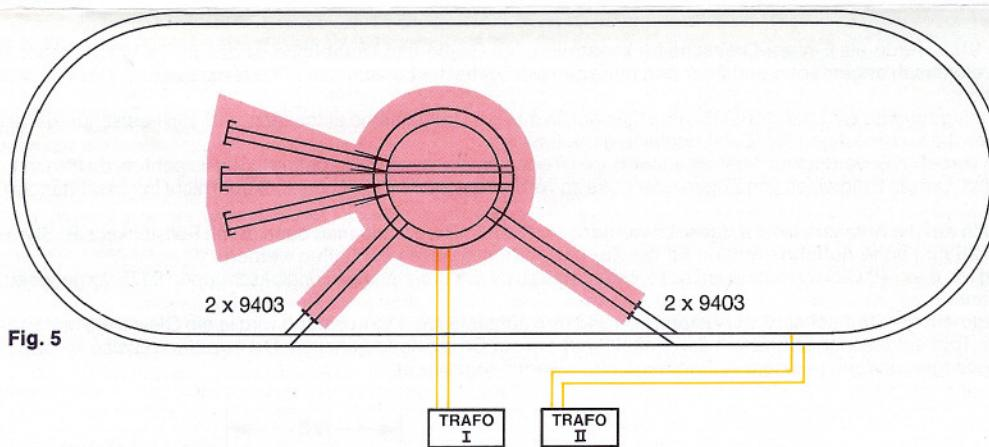
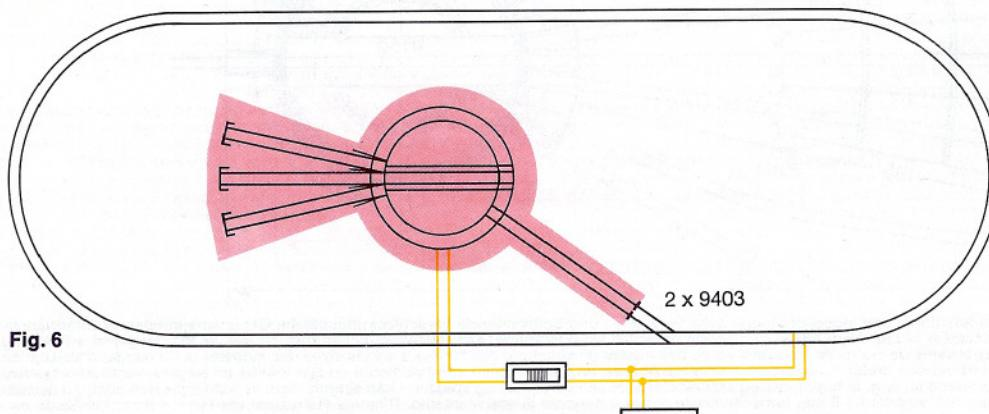

Fig. 5
Fig. 6
controlled by a separate transformer. All lines which go over into the turntable area should be cut off with two isolating fish plates 9403 (Fig. 5). **Operation of the layout with one transformer:** It is possible to operate the whole layout with just one transformer. As before all lines to the turntable area are cut off with two isolating fish plates 9403. Current is fed into the line. The turntable is also fitted with a switch 6904 · 6924 or a pause switch 6905 (Fig. 6). **Extensions:** With the Extensions Set 9153 the turntable can be extended to cope with three rail connections (Fig. 7). The turntable should be placed away from the area of the installed parts. The cover plates are now pulled up by pushing back the spring switch-tongues (Fig. 8), and stuck in the approach track. Every approach track is to be set up opposite a blind section or another approach track. **Rotating the turntable by hand:** Opposite the motor housing, under the turning table, is a small black lever. By pressing the lever towards the centre, the drive gear wheel is withdrawn from the teeth in the outer drive ring releasing the table so that it can be moved manually in the desired direction. When the lever is released the gear wheel is again enmeshed with the outer-ring. Ensure, however, that the rotating tracks are lined up with the exit tracks (Fig. 9). Should the turntable not operate, when pressing the switch 6909, simply press the lever slightly to ensure the gear wheel is firmly seated in the drive ring, which will then start it moving. It will then stop at the next track again (Fig. 10). **Oiling the motor:** To oil the drive motor both lattice cover plates must be removed from the machine house with a screwdriver (Fig. 11). Just one drop of oil should be put through the holes to lubricate the points as shown. Only use FLEISCHMANN-oil 6599. An applicator needle is located in the cap of the oil bottle for your use (Fig. 12). **Dismantling the table:** Should the turntable not operate by moving the lever, it will be necessary to dismantle the table. Using a small screwdriver, gently lift the small coverplate in the centre of the table between the two rails and spring off the circlip on the central pivot (Fig. 13). Be careful not to lose the circlip! On each side of the platform take off 6 opposing components (Fig. 8). Now the platform can be removed. The contact points and springs round the central pivot should be cleaned with a cleanser. To put the table back together simply reverse the procedure. In the unfortunate instance that the turntable should still not function, please return it to your local dealer or to your supplier or direct to the FLEISCHMANN Technical Centre.
**PLAQUE TOURNANTE 9152.** La plaque tournante FLEISCHMANN 9152 a été réalisée comme élément à encastrer. La fosse et le pont sont absolument conformes au grand prototype. La plaque tournante est actionnée par un moteur électrique; elle est livrée avec un poste de commande 6909 spécialement conçu pour la télécommande. Ce poste de commande s'adapte au système FLEISCHMANN de poste de commande figuratif (fig. 1). En appuyant sur le bouton noir du poste de commande (soit vers la gauche, soit vers la droite) on provoque la rotation du pont tournant dans la direction correspondante. Le pont s'arrête automatiquement à chaque secteur. Si on désire une rotation continue on doit bloquer le bouton noir à fin de course dans la direction souhaitée. Dès qu'on arrive à proximité de la voie désirée, il faut évidemment débloquer le bouton noir (fig. 3). **Montage:** Pour le montage de la plaque tournante il faut prévoir dans la table du réseau un trou de 205 mm Ø. On la dépose dans ce logement. Il n'est pas nécessaire de la fixer au moyen de vis car les rails d'accès, qui sont eux-mêmes fixés, suffisent pour la maintenir en place. Il est possible, dans certains cas, de poser la plaque tournante tout simplement sur la table du réseau. Il faut alors camoufler le bord de la plaque et également construire des rampes d'accès de 25 mm. de hauteur pour chaque voie d'accès. Le pourtour de la plaque tournante est partagé en secteurs de 7,5°, ce qui peut procurer un maximum de 48 voies d'accès. La remise à locomotives circulaire 9475 est prévue pour loger 3 locomotives côté à côté sur des voies distantes chacune de 7,5° (fig. 2). **Raccordement:** Courant pour le moteur du pont tournant: le câble triple, comportant les couleurs rouge, jaune et gris, doit être raccordé aux couleurs correspondantes du poste de commande, en utilisant une plaque à bornes 6941. Le câble bipolaire, noir et blanc, du poste de commande seront raccordés aux bornes de couleur correspondante du transformateur, qui fournit le courant alternatif ~ (transformateur 6750, 6755, 6730, 6735, 6700, 6705). **Manœuvre de la plaque tournante à la main, voir illustrations No. 9 et 10. Courant de traction dans le pont tournant:** le câble bipolaire jaune de la plaque tournante est raccordé aux bornes de couleur correspondante du transformateur, qui fournit le courant continu =. Les voies qui sont issues de la plaque tournante reçoivent du courant de traction suivant la position du pont tournant; celui-ci n'alimente donc que les voies vers lesquelles il est orienté. Toutes les autres voies sont hors tension, ce qui permet d'y gérer des locomotives. Il faut donc couper le courant de traction aussi longtemps que le pont tourne (fig. 4). **Alimentation du réseau au moyen de 2 ou plusieurs transformateurs:** La plaque tournante et les voies environnantes doivent en principe être alimentées par un même transformateur. En règle générale il faut placer 2 éclisses isolantes 9403 dans chaque voie aux approches de la plaque tournante (fig. 5). **Alimentation du réseau au moyen d'un seul transformateur:** Il est également possible de n'utiliser qu'un seul transformateur pour l'entièreté du réseau. Toutefois, la règle reste la même: il faut aussi placer 2 éclisses isolantes 9403 dans chaque voie aux approches de la plaque tournante. Le courant de traction est évidemment envoyé dans les voies du réseau proprement dit, tandis que le courant de traction vers la plaque tournante est fourni à celle-ci par l'intermédiaire d'un inverseur 6904/6924 ou d'un inverseur momentané 6905 (fig. 6). **Grandissements:** Les possibilités de la plaque tournante peuvent être augmentées en lui adjoint un ou plusieurs sets complémentaires 9153. Chacun d'eux fournit ainsi 3 voies d'accès de plus (fig. 7). Il faut d'abord orienter le pont tournant vers de secteurs autres que ceux qu'on veut modifier. On soulève ensuite les secteurs modifier en appuyant sur les lamelles de fixation (fig. 8); puis on les remplace par des rails d'accès. Il faut veiller à ce que, en face de chacun de ceux-ci se trouve soit un autre rail d'accès, soit une butte d'arrêt. **Manœuvre de la plaque tournante à la main:** En face de la cabine, sous le tablier du pont tournant, se trouve un levier. Lorsqu'on pousse sur ce levier vers le centre du pont, on dégage l'engrenage d'entraînement et on peut alors faire pivoter le pont tournant dans le sens désiré. Dès qu'on lâche le levier, les engrenages se bloquent à nouveau. Il faut veiller à ce que les voies du pont correspondent à ce moment avec un rail de sortie (fig. 9). Si, en manœuvrant le poste de commande 6909, le pont ne bougeait pas, il faut alors appuyer légèrement sur le levier en direction du bord de la plaque tournante afin de réengager les engrenages (fig. 10). **Graissage du moteur:** Pour huiler les coquins du moteur, il faut soulever au moyen d'un petit tournevis les deux plaques striées se trouvant devant la cabine (fig. 11). On peut alors laisser couler une petite goutte d'huile aux endroits indiqués. N'utilisez que l'huile recommandée FLEISCHMANN 6599. L'aiguille montée dans le bouchon du petit flacon convient parfaitement à cet usage (fig. 12). **Démontage du pont tournant:** Si après avoir appuyé sur le levier comme il est ci-dessus, le pont ne tourne pas encore, il faudrait démonter le pont. Pour cela il faut soulever au moyen d'un petit tournevis la tête se trouvant entre les rails au centre du pont. Ensuite on enlève l'anneau de fixation (fig. 13). Attention! Veiller à ne pas perdre l'anneau de fixation! De chaque côté de la plaque tournante on démonte au moins 6 secteurs se faisant face (voir fig. 8). Les contacts circulaires et les lamelles de prise de courant doivent être nettoyés à l'essence. Le remontage se fait en sens inverse. Au cas où certaines pièces seraient endommagées, il faudrait envoyer la plaque tournante avec son poste de commande 6909 au service réparations de l'usine ou à l'un de ses distributeurs.